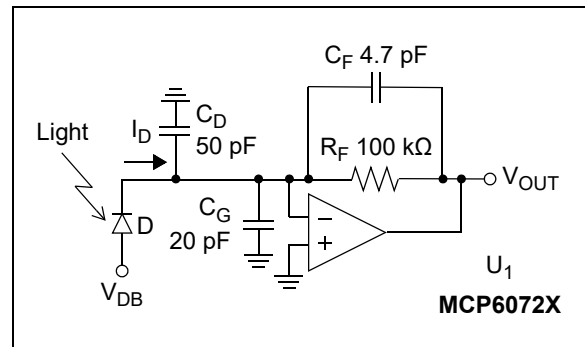

FIGURE 4-10: Photo-diode Detector Circuit.
The circuit in Figure 4-10 has a photodiode detector (D) that has parasitic capacitance, C_D and produces an output current, I_D . V_{DB} biases the photodiode detector so that it is either in photovoltaic mode (at 0V, like U_1 's noninverting input) or photoconductive mode (less than 0V). Photovoltaic mode has a linear response to light, while photoconductive mode is faster.
Other photovoltaic detector circuits come with different trade-offs. The circuit in Figure 4-10 is faster than a circuit that does not require C_F , but needs a much faster operational amplifier. Other implementation details can vary as well.